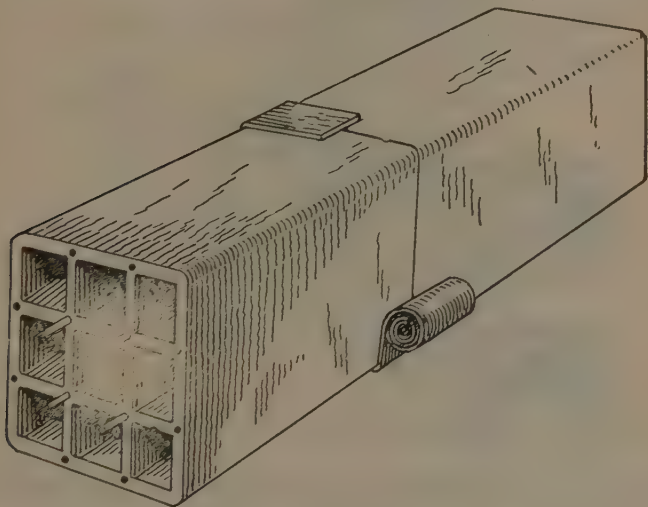

FIG. 978.—Method of laying multiple duct vitrified clay conduit. The sections are centered by the dowel pins shown in the cut.
**Joints in Multiple-duct Vitrified Clay Conduit.**—In laying multiple duct earthenware conduit, the ducts or sections are centered by means of dowel pins inserted in the holes at each joint, which is then wrapped with a six inch strip of asphalted burlap, or damp cheese cloth, and coated with cement mortar as shown in fig. 978. Economy of space and labor constitutes the principal advantages derived from the use of multiple duct conduit.